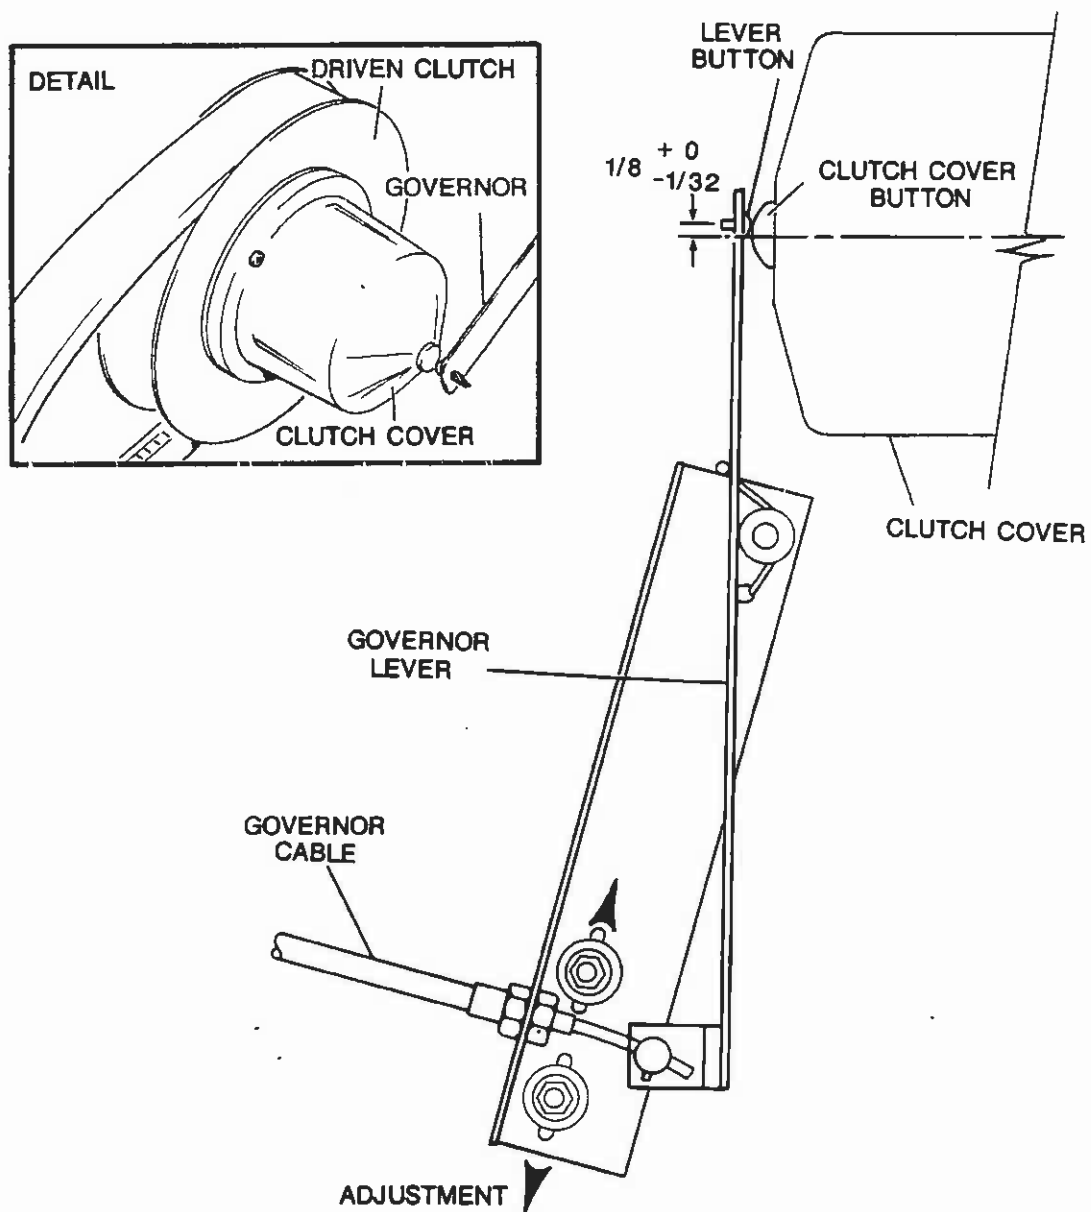

FIG. H-2 GOVERNOR LINKAGE
Remove the cable (See Governor Cable Removal). Remove the nut (10) and washer (11) and slide lever (12) and spring (13) from the pivot bolt. Inspect the bushings for wear and replace if necessary. Reassemble the governor lever, spring and cable by reverse procedure. Center the lever button with the clutch cover button as shown by loosening nuts (9) and adjusting with clearance slots. Tighten nuts and recheck for proper button alignment. (Fig. H-2)